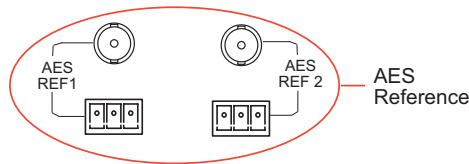

Figure 2-28. AES Reference Connection (Rear View)
- 1 Locate the AES reference connections on the rear of the router, as shown in Figure 2-28. AES reference connections are labeled ‘AES REF 1’ and ‘AES REF 2’.